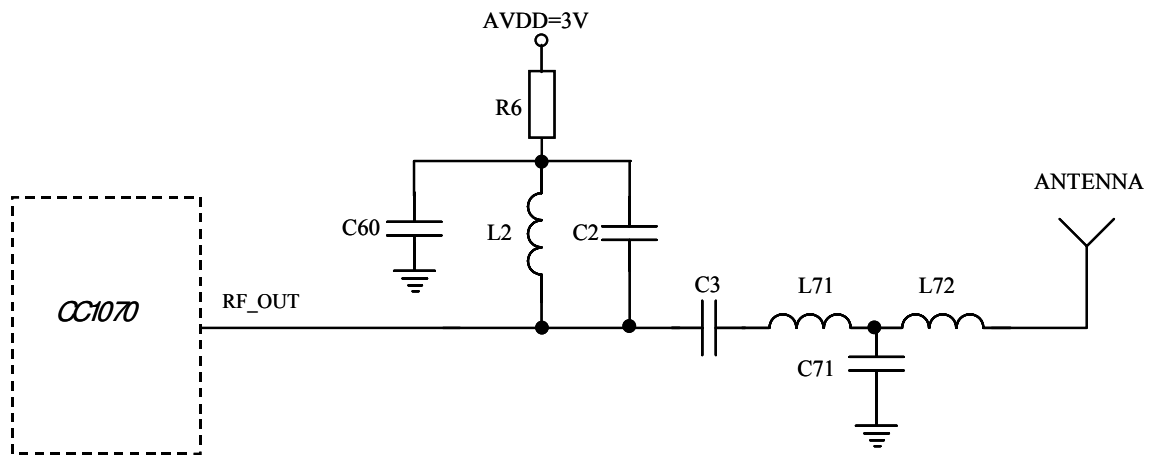

Figure 14. Output matching network
When designing the impedance matching network for the CC1070 the circuit must be matched correctly at the harmonic frequencies as well as at the fundamental tone. A recommended matching network is shown in Figure 14. Component values for various frequencies are given in Table 15. Component values for other frequencies can be found using the SmartRF® Studio software.
**Table 15. Component values for the matching network described in Figure 14 (DNM = Do Not Mount).**